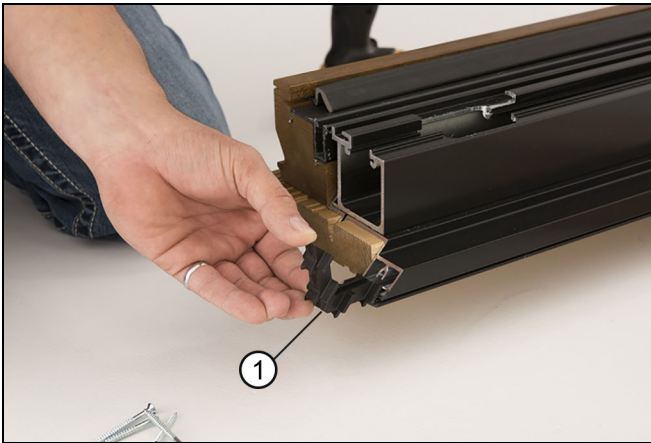
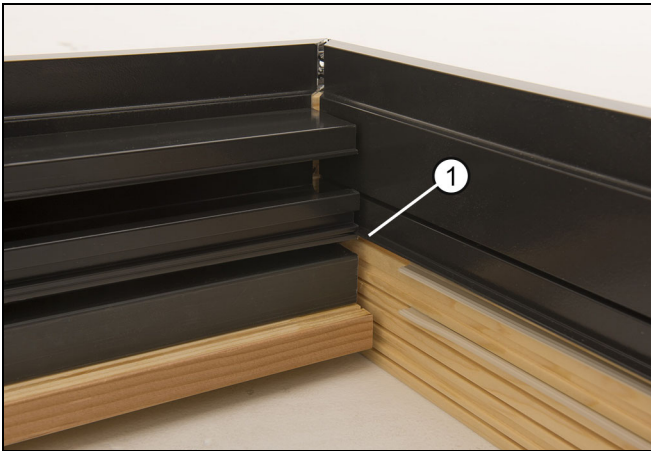

Figure 4
Figure 5
3. Install the head jamb corner keys and assemble the corners. Ensure the metal leg on the jamb goes between the aluminum head track and shoot bolt channel. See Figure 4 and Figure 5.